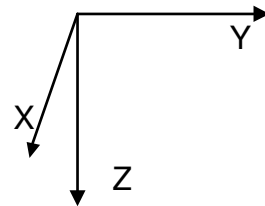

Figure 3
4. When you have put your system in the new position, press the space bar. The TCM2 will take a measurement, and ask you to turn your system upside-down. It is very important that the z-axis in the new position be exactly  $180^\circ$  from the original orientation. Figure 3.